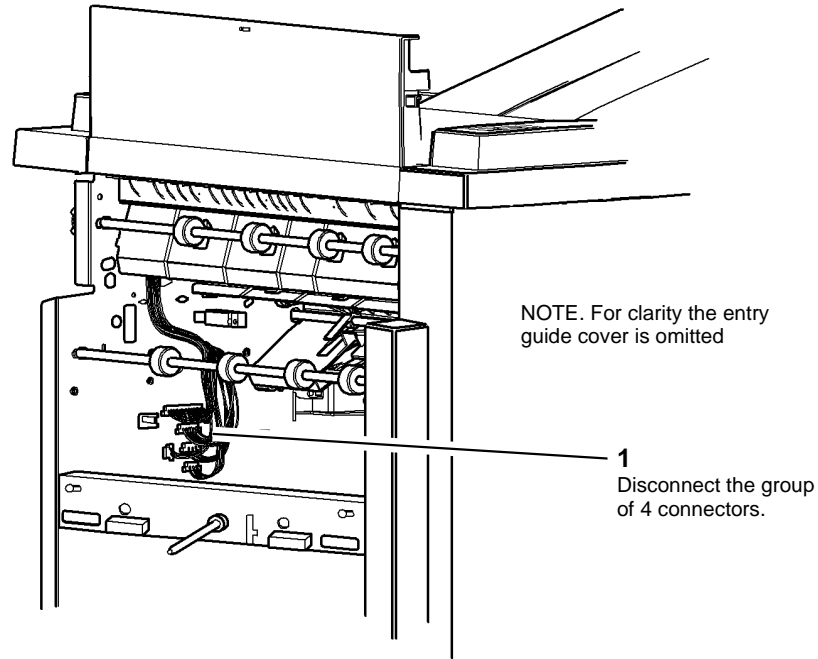

Figure 1 Harness disconnection
4. Disconnect the harness, Figure 1.